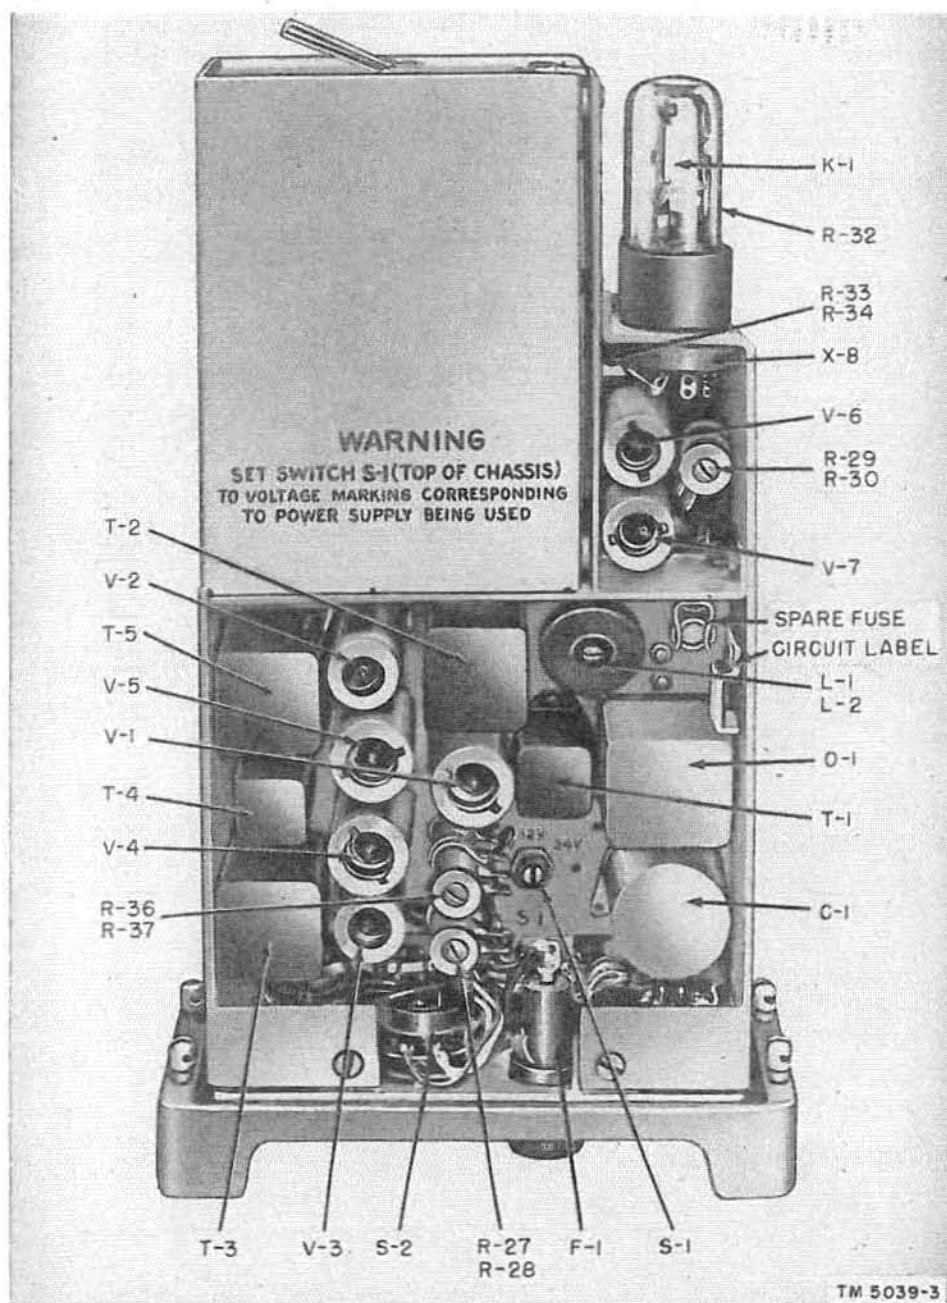

Figure 60. AF amplifier AM-65/GRC, top view of chassis.
- (1) Check the lamp (par. 125).
- (2) Check fuse F-1 in the amplifier (par. 124).
- (3) Check thermal relay K-1 and ballast tubes R-32 and R-33 in the amplifier (fig. 60 and par. 124).
- (4) If a 24-volt source is used in the vehicle, check all of the amplifier tubes (fig. 60 and par. 124).
- (5) If the above checks fail to reveal a defective component, make the cabling checks outlined in paragraph 119.
a. FUSE. The panel-mounted fuse may be removed by unscrewing the fuse cap which also serves as a fuse extractor. A spare fuse is located in a fuse clip on the amplifier chassis (fig. 60).
b. THERMAL RELAY AND BALLAST TUBE. Thermal relay K-1 and ballast tube R-32 are mounted in a horizontal position at the rear of the amplifier chassis (fig. 60). After removing the panel-chassis assembly from the case, remove the relay or ballast tube with a straight horizontal pull. Do not rock or jiggle the component in its socket; the socket prongs may be damaged.
c. TUBES. All tubes are accessible from the top of the chassis when the case has been removed (fig. 60). To remove any tube, first remove the tube shield and then use a tube puller. Do not rock or jiggle a tube in its socket; the tubes are easily damaged by careless handling.